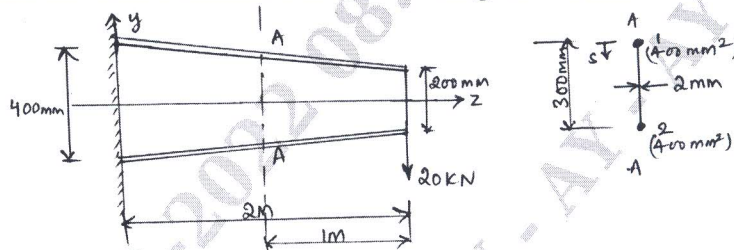

Fig.Q.8
- 8 Determine the shear flow distribution in the web of the tapered beam shown in Fig.Q.8 at section midway along its length. The web of the beam has a thickness of 2mm and is fully effective in resisting direct stress. The beam tapers symmetrically about its horizontal centroidal axis and the cross sectional area of each flange is 400mm^2 . (16 Marks)